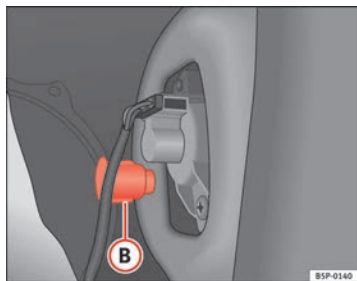

Fig. 193 Side lights and brake lights
- Unscrew the plastic fitting ⇒ fig. 193 **B** securing the rear light. Inserting a screwdriver under the plastic fitting may help to loosen it.